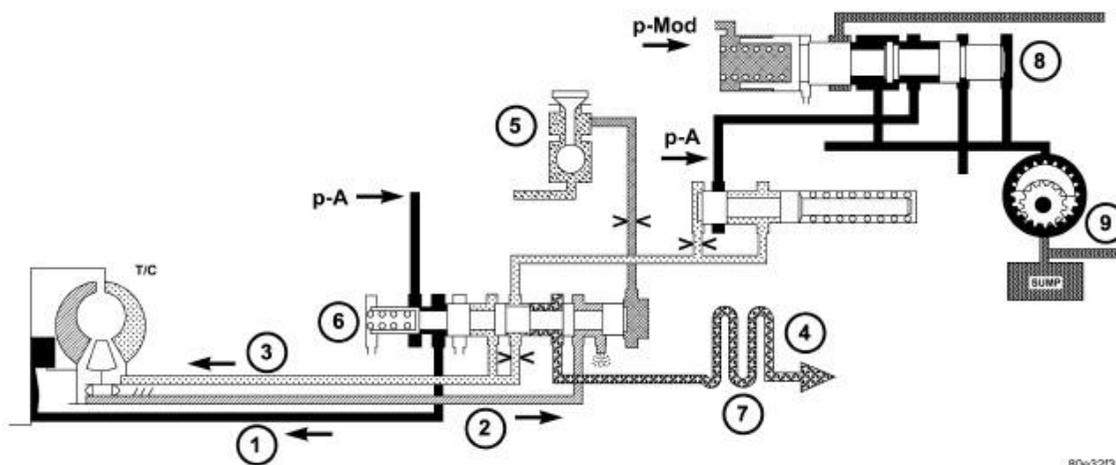

Fig. 232: Torque Converter Lockup Clutch Regulating Valve
The torque converter lockup clutch regulating valve (6) regulates the torque converter lock-up clutch working pressure (p-TCC) in relation to the torque converter clutch control pressure (p-S/TCC). Refer to **Fig. 232**. According to the size of the working pressure (p-A), the torque converter lockup clutch is either Engaged,